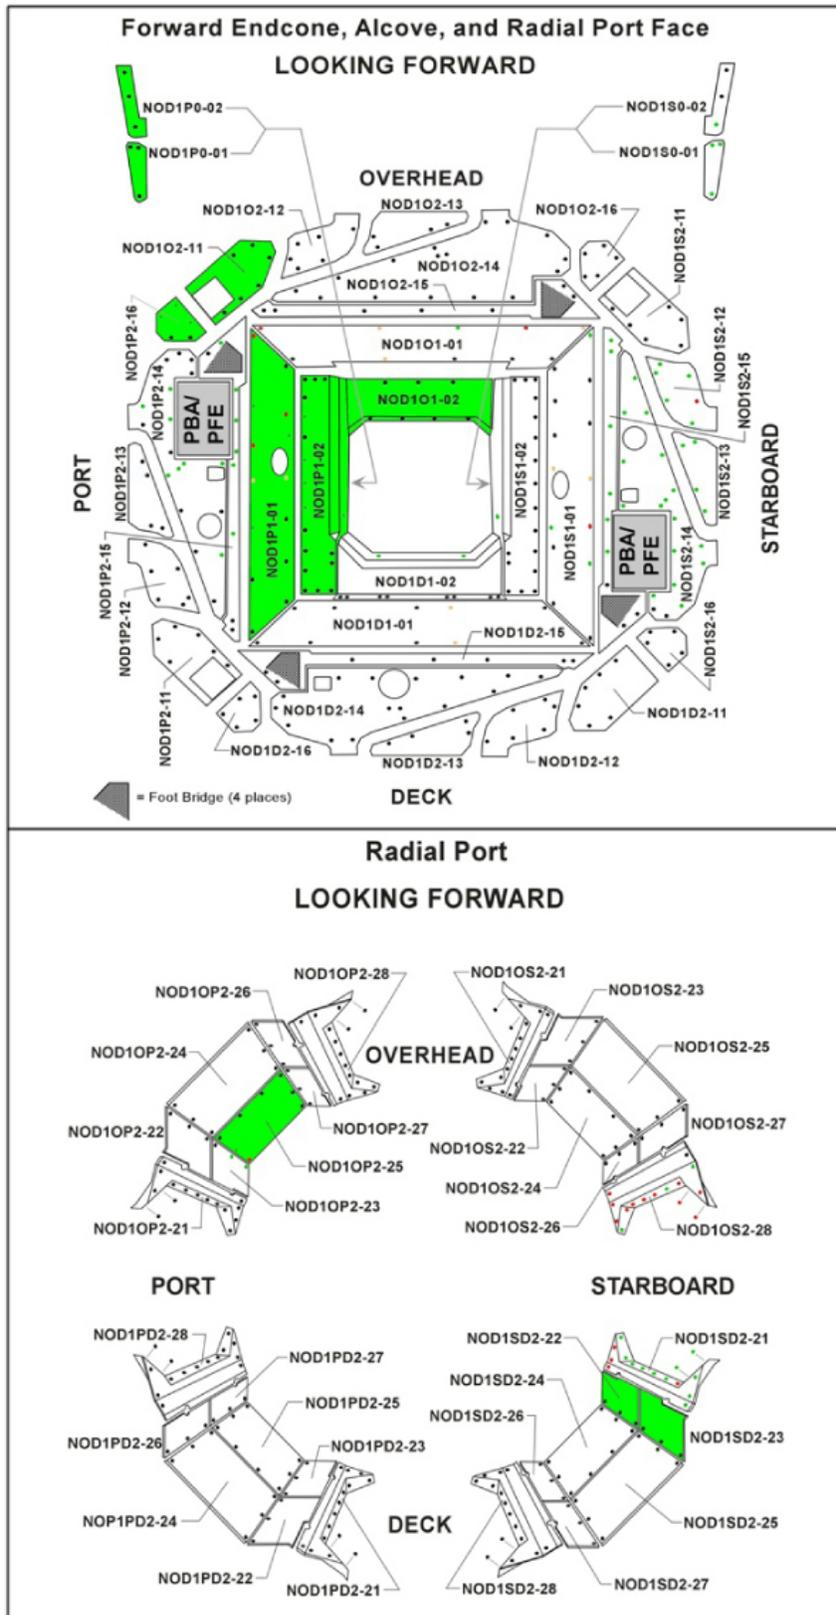

Figure 1. Node 1 Closeout Panels to be Removed.
Refer to Figures 1, 2, and 3 in NODE 1 PREP FOR NODE 3 – ALCOVE HARDWARE INSTALLATIONS (SODF: ASSY OPS: ULF3).
- 2.1 Relocate any items from front of affected Closeout Panels. Refer to Figure 1.
- 2.4 Remove NOD1SD2-22/NOD1SD2-23 Closeout Panels, fasteners (six) (5/32" Hex Head, 1/4" Drive; Driver Handle, 1/4" Drive) Temporarily stow. Refer to Figure 1.
Refer to Figure 1.